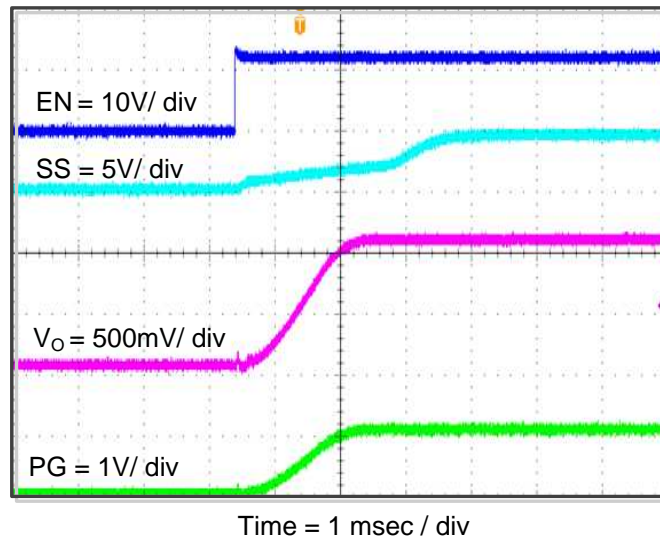

Figure 10. TPS562219AEVM-663 Start-Up Relative to EN
The TPS562219AEVM-663 start-up waveform relative to enable (EN) is shown in Figure 10. Load = 1 Ω resistive.